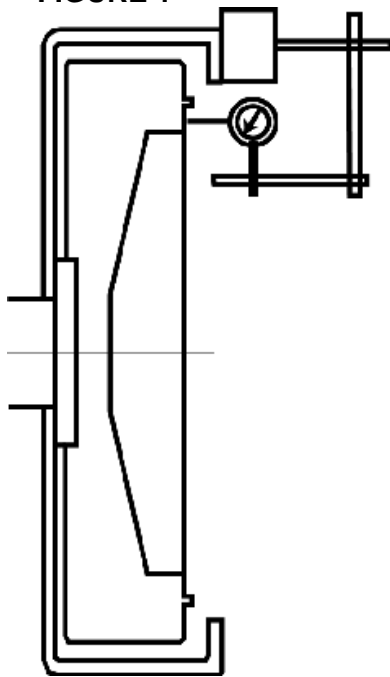

FIGURE 3
3.1.3 Check flywheel face runout. (See Figure 3)